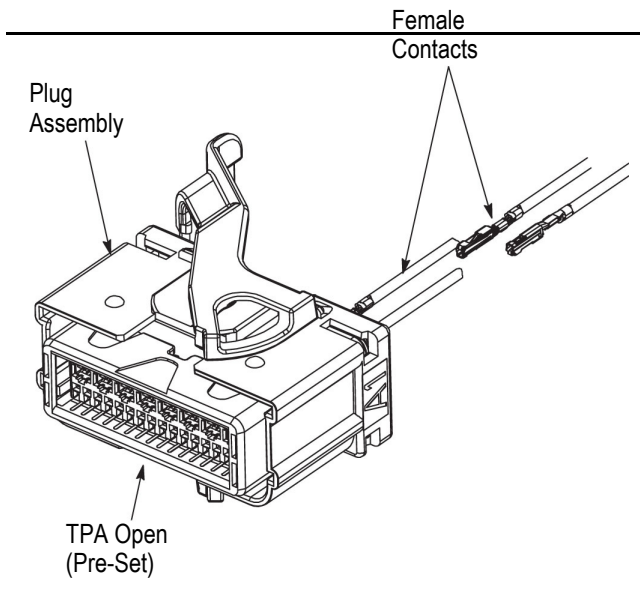

Figure 2
Check to be sure the TPA lock is in the open (pre-set) position. See Figure 2. If the TPA is closed, refer to Paragraph 4.3, Contact Removal, Steps 1 and 2. Proceed as follows:
1. Insert a terminated contact by grasping the wire approximately 25.4mm [1.0 inch] behind the insulation crimp and pushing it straight in to the appropriate circuit cavity as far as it will go. Refer to Figure 2.